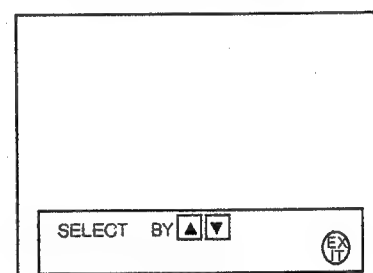

Fig. 2
- 2) Select any of PICTURE, SOUND or OTHERS. The screen shown in Fig.2 will be displayed if the LEFT / RIGHT KEY is pressed.